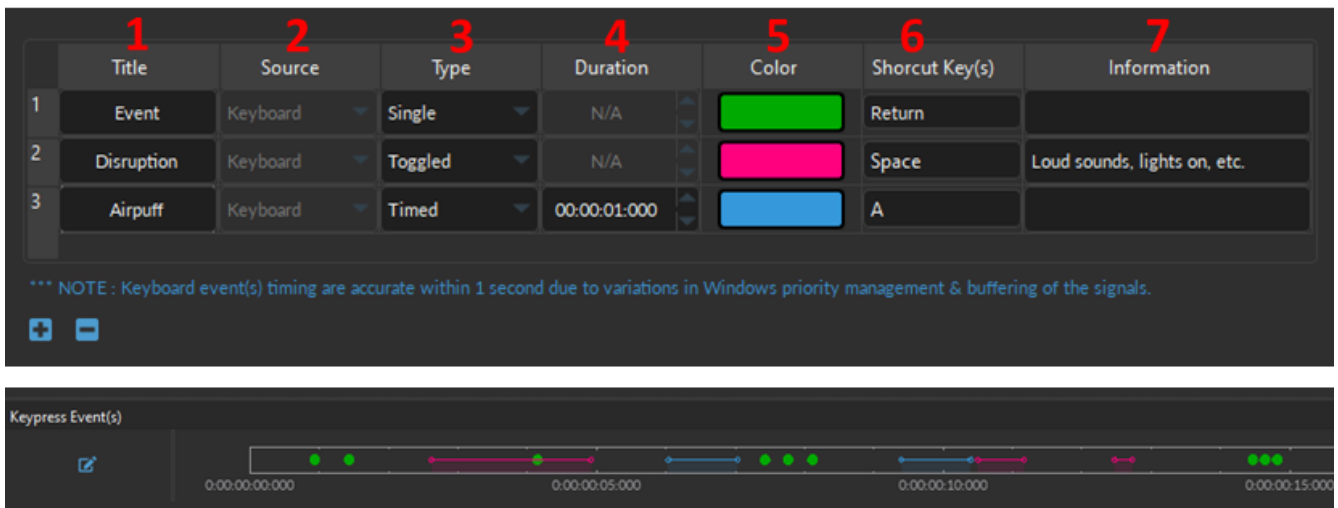

Figure 14.31: Channel(s) configuration window, Keypress Event(s)
The following are the configurable parameters of a **Keypress Event**, per Fig. 14.31:
1. The **Title** (Fig. 14.31, 1) allows you to give a name for the Keypress event.
2. The **Source** (Fig. 14.31, 2) is by default *Keyboard*.
3. Three **Types** of Keypress Event(s) (Fig. 14.31, 3) can be specified with the drop-down list:
4. The **Duration** (Fig. 14.31, 4) is only used for the **Timed** Keypress type to specify the predetermined amount of time a Keypress Event will span. The duration is set in hh:mm:ss:zzz.
5. Select the **Color** (Fig. 14.31, 5) field to open the **Select Color** window. Basic colors are provided, in addition to custom colors can be created and stored.
6. The **Shortcut Key(s)** (Fig. 14.31, 6) can be any keyboard key, including space bar, enter, backspace, any letters, number and special characters (*, !, ? etc.). To specify the key, click inside the *Shortcut Key(s)* cell, then press the keyboard key of choice. If a key was properly set, it will appear in the *Shortcut Key(s)* cell (as in Fig. 14.31, column 6).
7. The **Information** column (Fig. 14.31, 7) provides space to make notes or write a short description of the Keypress Event.